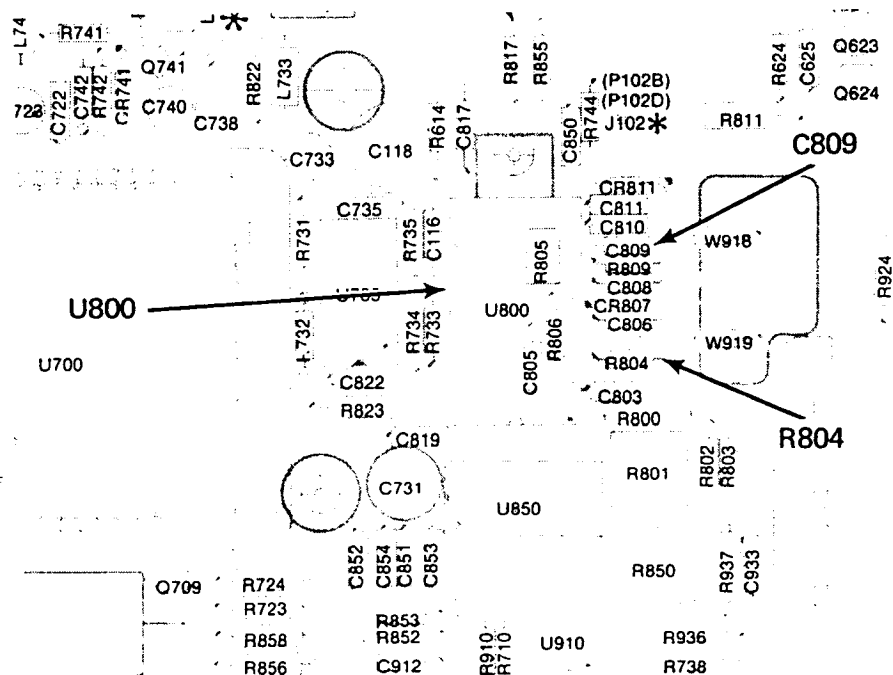

Fig. 2 Location of U800, C809, & R804
- () 32. Locate the capacitor C809 (See Fig. 2). Replace it with one of the capacitors supplied in the kit.
- () 33. Locate the resistor R804 (See Fig. 2). Solder the remaining capacitor in parallel with R804.